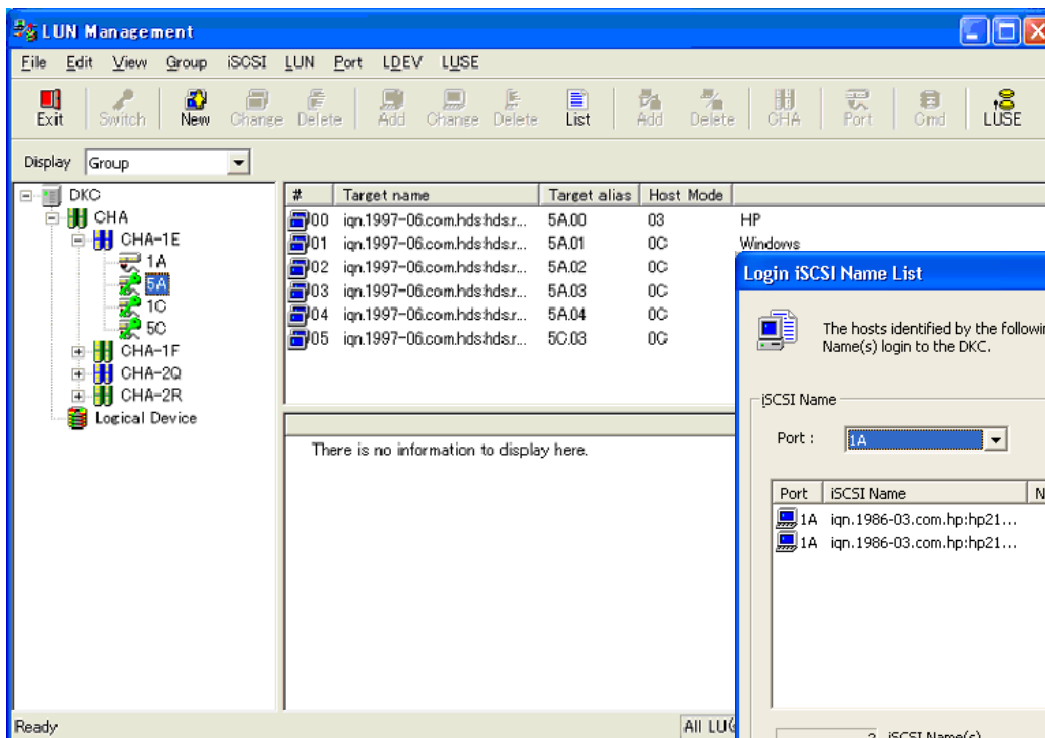
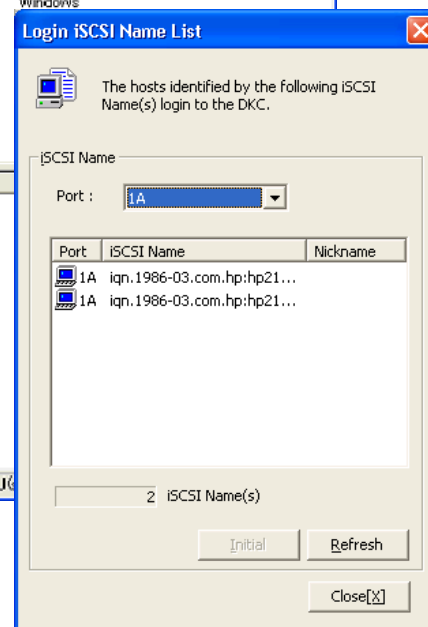

Fig. 3.19-9 Main Window
Fig. 3.19-10 Login iSCSI Name List Window
When iSCSI Port  in the tree view is selected, the [WWN] menu changes to the [iSCSI] menu. When [Login List] is selected (DR) from the [iSCSI] menu in the Main window (Figure 3.19-9), the Login iSCSI Name List window (Figure 3.19-10) is displayed.